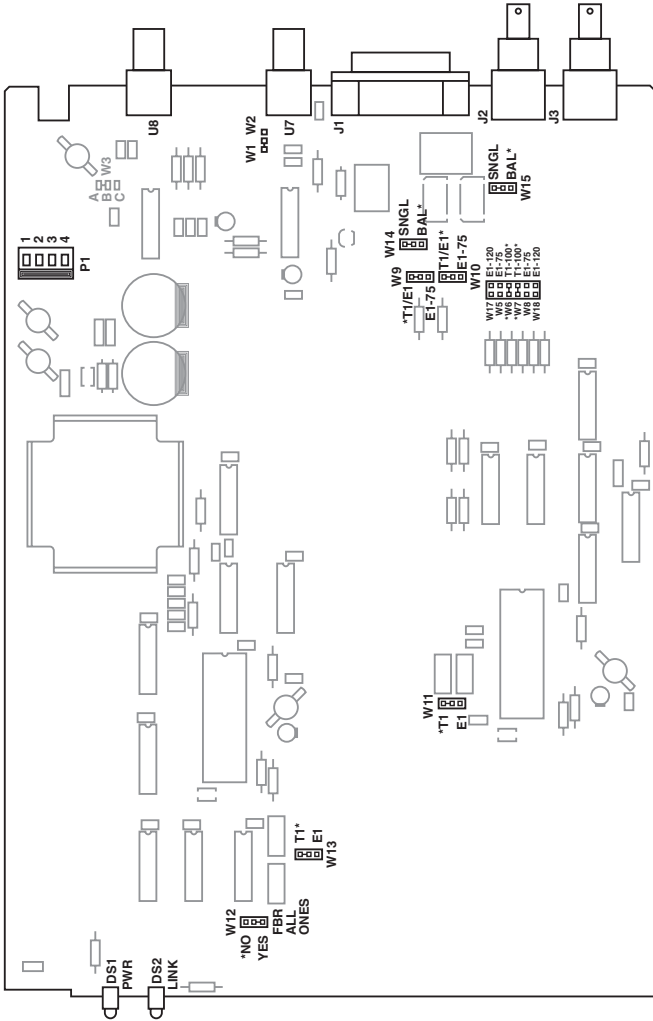

Figure 3-1. Jumper Locations.
The T1 interface fully complies with requirements of AT&T PUB 62411 and G.703. Two types of line coding can be used: AMI or B8ZS. Select the T1 interface by installing jumpers in appropriate positions, as shown in Fig 3-1 and Table 3-1.
3. Identify the jumpers (see Figure 3-1).
Before you install the T1 Fold (2KM), set the internal jumpers according to your application (that is, electrical interface). The jumpers are located on the T1 Fold board, as shown in Figure 3-1. Jumper functions are listed in Table 3-2.
The internal jumpers near RD and DB15 (see Figure 3-1) select 100 Ω for T1 balanced signals, usually applied by the DB15 connector.